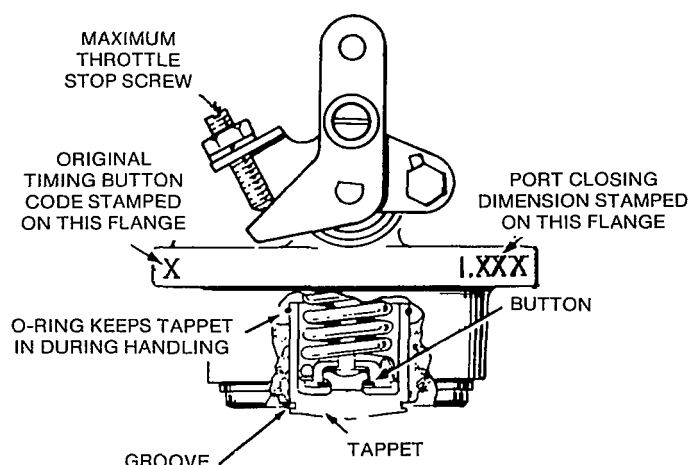

FIGURE 23. TAPPET REMOVAL
- B. Use a pair of channel lock pliers or screwdriver to remove tappet, retaining ring, and timing button from old injection pump (Figure 23). Use number or letter code on timing button to obtain dimension of old timing button from Table 1. This code should be the same as the code number stamped on injection pump (Figure 23).